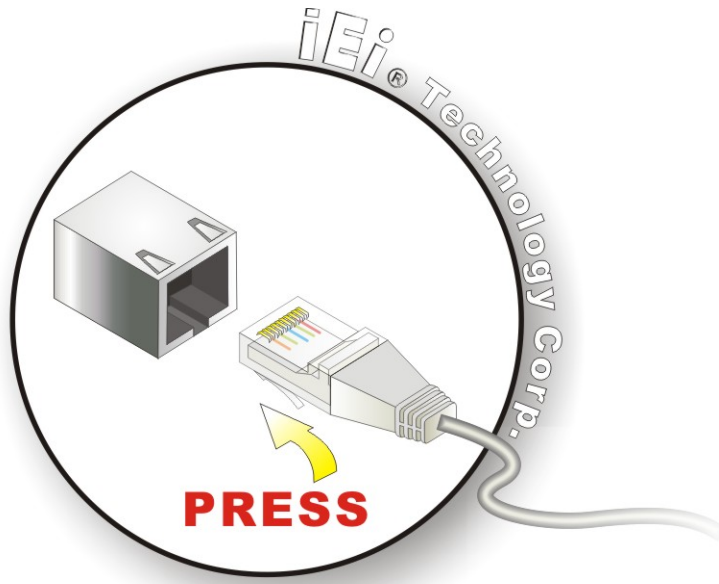

Figure 3-27: LAN Connection
Step 2: Align the connectors. Align the RJ-45 connector on the LAN cable with one of the RJ-45 connectors on the AFL2-W15B-H61. See **Figure 3-27**.